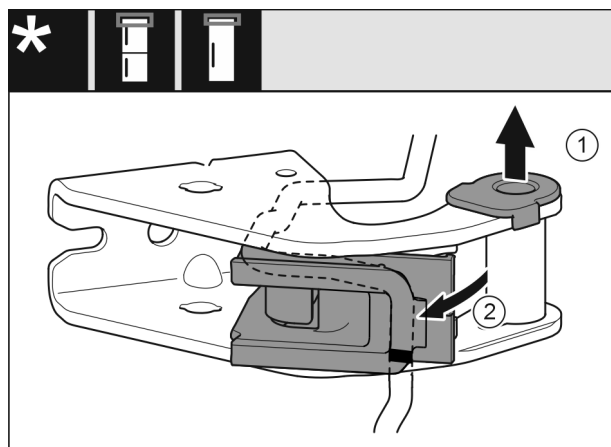

Fig. 14
- Pull the bearing bush out of the guide. Fig. 14 (1)
- Swing the cable holder out. Fig. 14 (2)